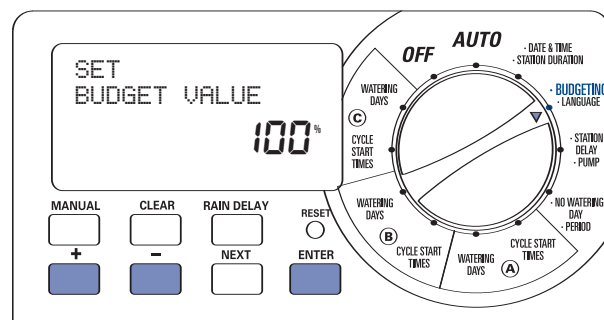

Figure 14: Set "Water Budgeting"
1. Turn rotary dial to **BUDGETING** position [See Figure 14]